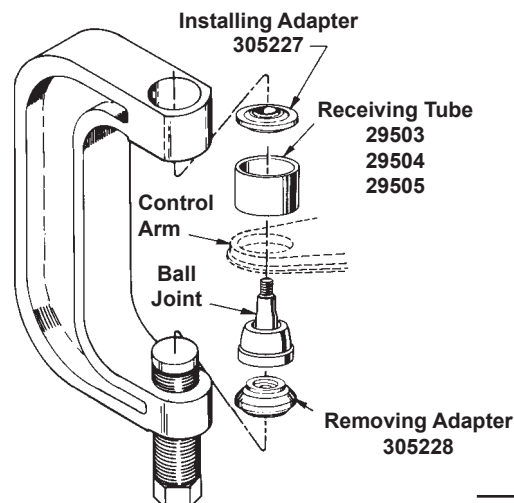

Figure 4
3. Assemble the ball joint press components as shown in Figure 4. Position the receiving tube, and tighten the forcing screw. Check the alignment of all tooling and components, and continue tightening the forcing screw until the ball joint is firmly seated.